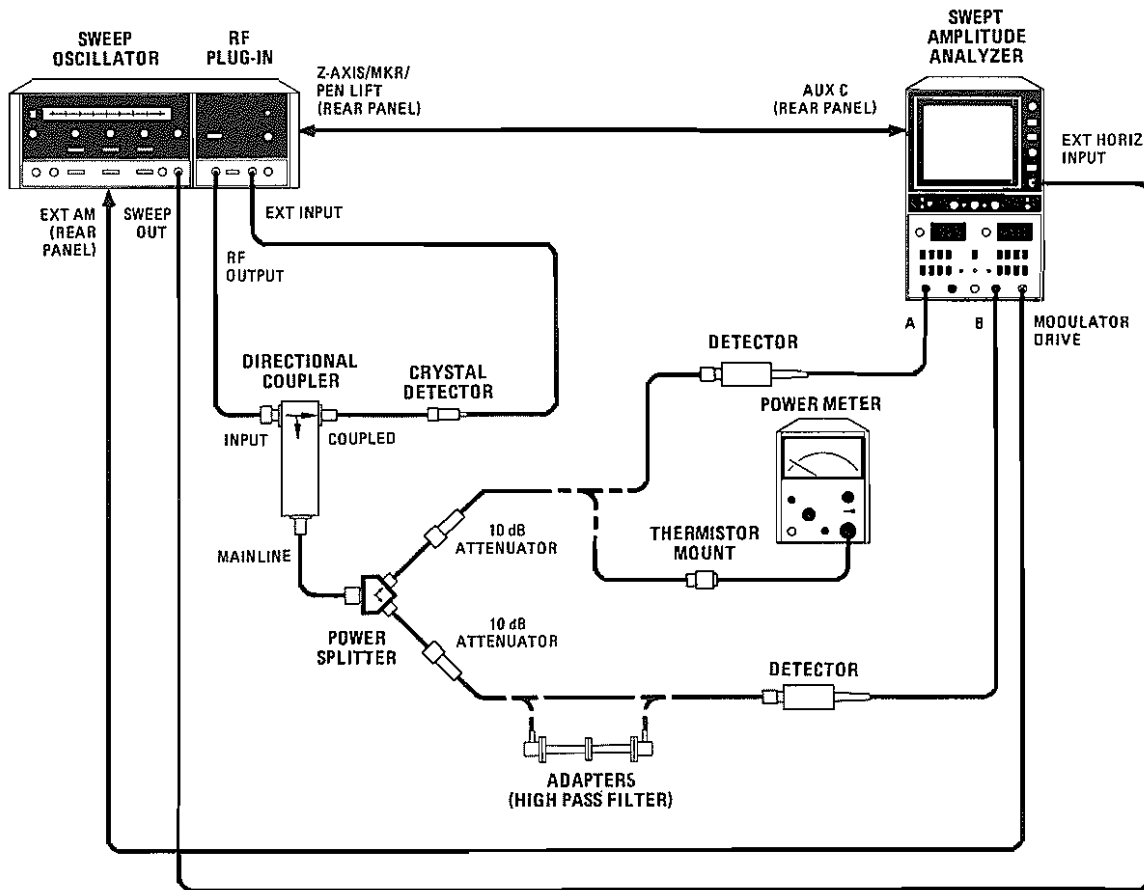

Figure 4-10. Harmonic Spurious Signals Test Setup
- a. Connect equipment as shown in Figure 4-10 with power meter connected to 10 dB attenuator and display B detector connected to 10 dB attenuator.
- d. Disconnect thermistor mount and connect display A detector to 10 dB attenuator as shown in Figure 4-10.
- h. Connect adapters (high pass filter) between 10 dB attenuator and detector as shown in Figure 4-10.